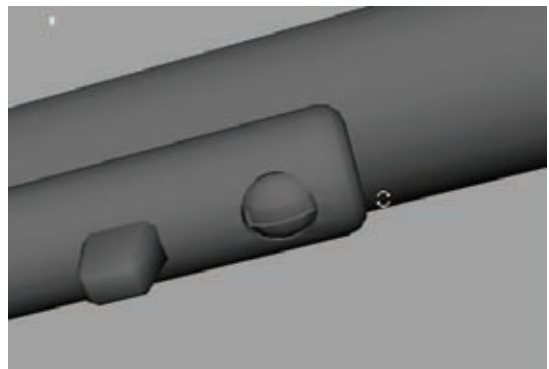

Figure 3.33
6. Create a cylinder and intersect it into the rod where the screw will be. Deselect everything. Select the ejector rod mesh, Shift-select the cylinder, and perform a Boolean Difference operation to carve out a hole in the rod where the cylinder was. Insert the screw head and you're good to go (Figure 3.33).